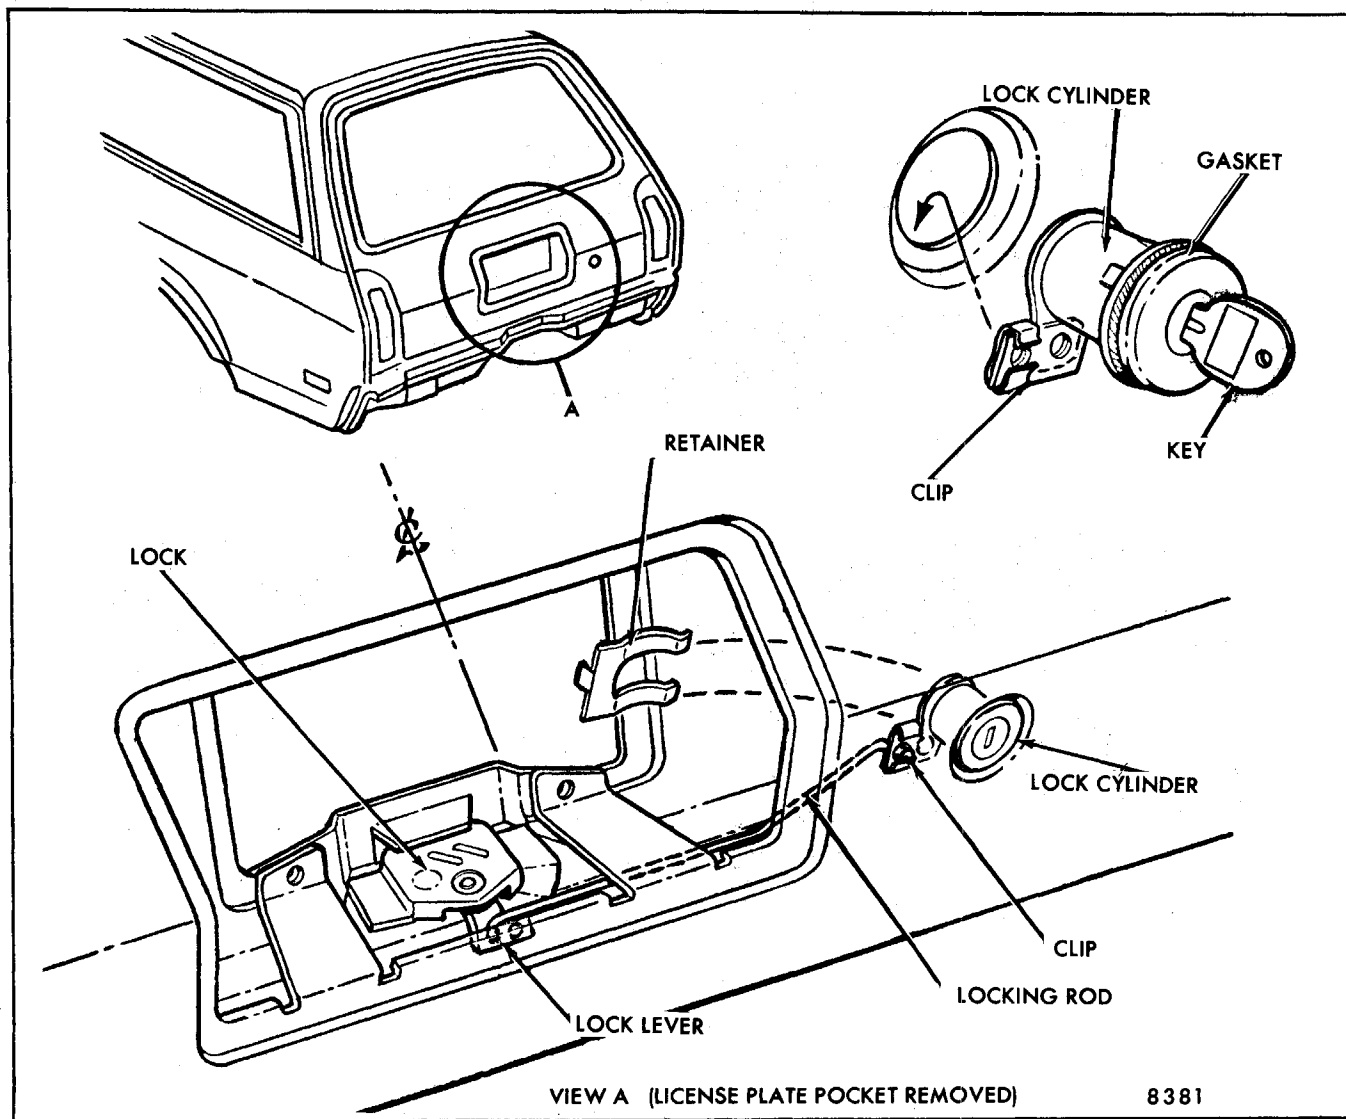

Fig. 7-91-Lock Cylinder Installation - H-15 Styles
2. Working through access hole, remove locking rod from lock cylinder (Fig. 7-91).